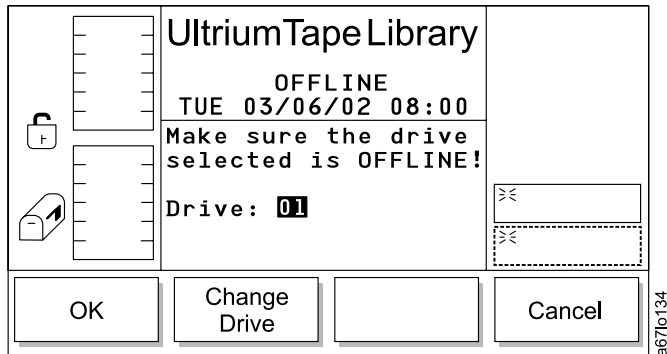

Figure 45. Select Drive Dialog
- b. Select **Service**, then **Drives**. The Select Drive Dialog displays (see Figure 45).